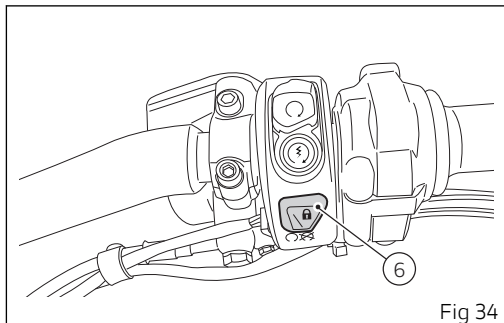

Fig 34
Key-Off occurs when the speed of the motorcycle is equal to zero, by pressing button (6, Fig 34) on the handlebar or by pressing the Hands free button (1).